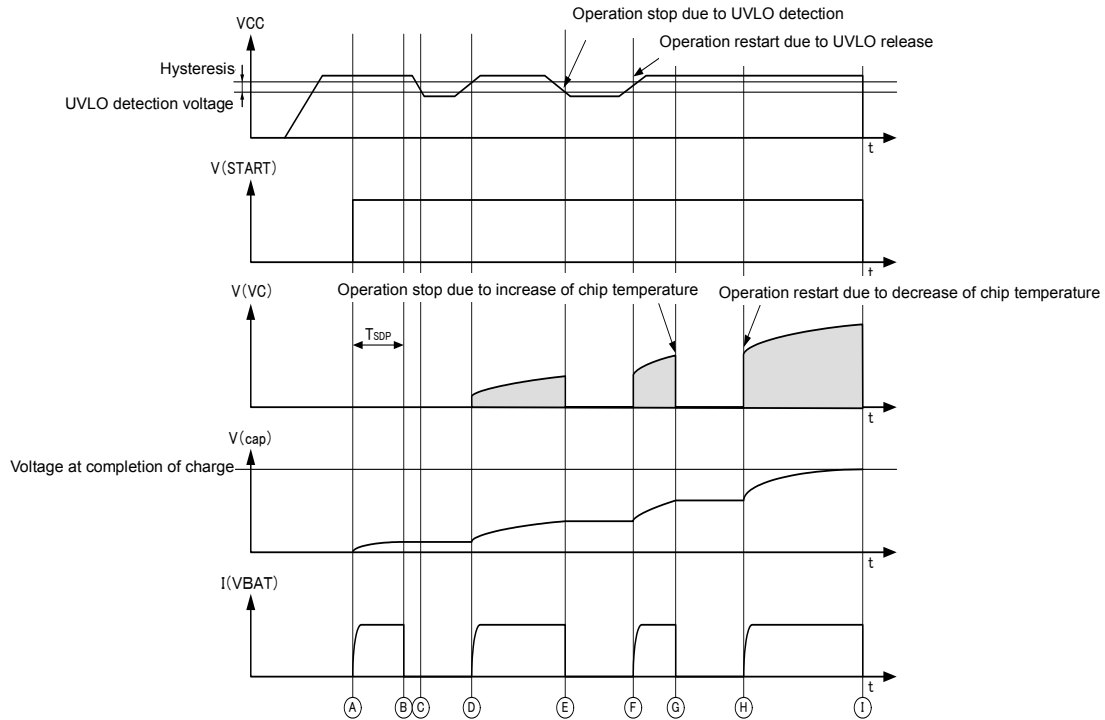

Fig 35 Timing Chart 3: Under Protective Circuit Operation
- ③ The protective circuit is activated (See Fig 35 and the Protective Circuit.).
If the VCC voltage is reduced to the UVLO detection voltage specified in the electrical characteristics or less, the UVLO protective circuit is activated and the charging operation temporarily stops. (See Time ㉔ and ㉕ in Fig 35.) After that, when the VCC voltage becomes the UVLO release voltage or more, the charging operation automatically restarts. (See Time ㉖ and ㉗ in Fig 35.)
It protects the IC against thermal runaway due to excessive temperature rise ($T_j > 175^\circ\text{C}$ [TYP]). After detection, the charging operation temporarily stops (See time ㉘ in Fig 35.), and when the chip temperature decreases, ($T_j < 150^\circ\text{C}$ [TYP]), it automatically restarts. (See Time ㉙ in Fig 35.)
If the VC pin becomes the GND level due to any failure and the PowerTr repeats switching 2^{16} (=65536) times which is the SDP count number (TSDP) at the maximum OFF time, it is judged as an error and the charging operation is forced to be stopped. (See Time ㉚ in Fig 35.) If the START pin is changed from "L" to "H" and the UVLO detection is released, it restarts.